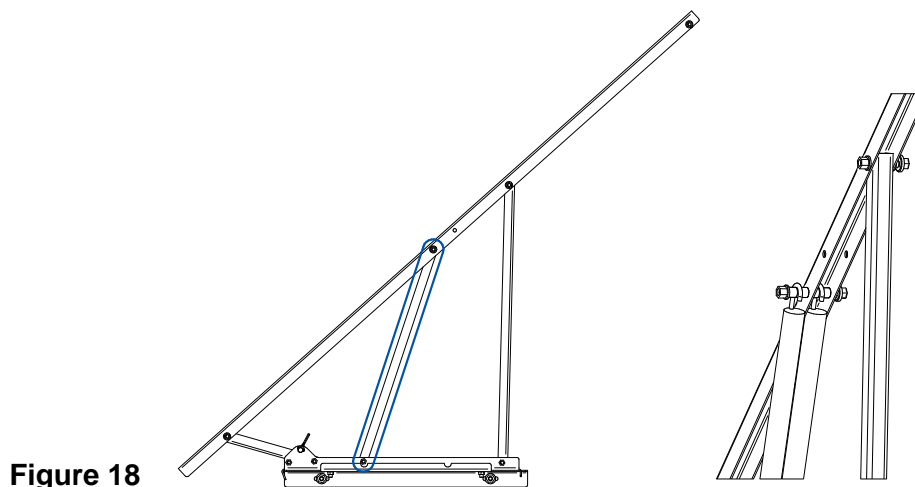

Figure 18
16.3. On 365 and 400 series trailers, install 3,8x21x500mm springs like shown on figure 18.